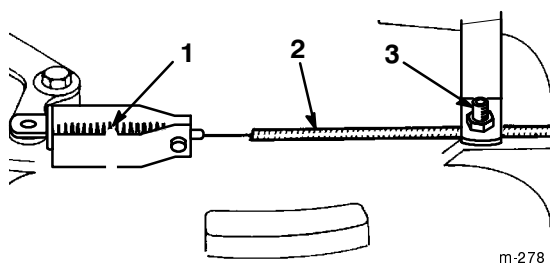

Figure 37
3. Loosen the cable clamp screw until the brake cable conduit slides (Fig. 37).